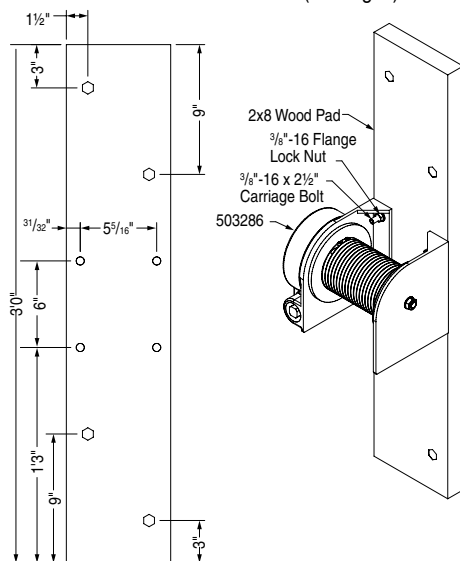

Figure 1
- ① Find installation location according to project drawings
- ② Four 7/16" diameter holes are provided for mounting the winch to wood pad or clamps. It will be necessary to remove winch cover during installation. Wall attachment hardware will vary based on field conditions
- A) To mount to 2 x 8 x 36" wooden wall pads - Locate winch at center of wood pad with the pad running vertically. Mark and drill 13/32" holes and attach using 3/8"-16 x 2 1/2" carriage bolts and flange lock nuts. Anchor wooden wall pad per manufacturer recommendations and using hardware that is appropriate for wall construction and field conditions (see Fig. 1).